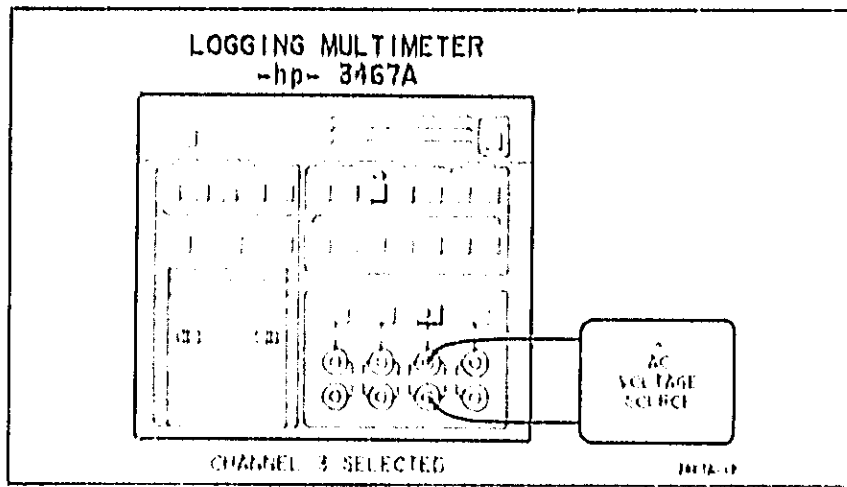

Figure 3-11. AC Voltage Measurements.
- d. Connect the measurement leads to the AC voltage(s) to be measured as shown in Figure 3-11.